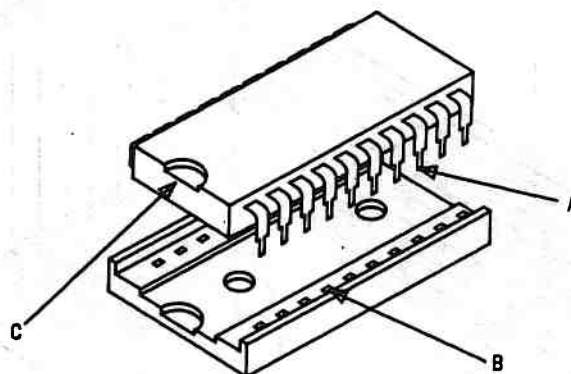

Figure 3-18. Inserting the RAM Chip into the Socket
- Align the RAM chip (A) with a socket (B) as shown in Figure 3-18. Make sure that the notch in the chip (C) is facing the same direction as the other chips on the board. Push the chip down firmly to insert.